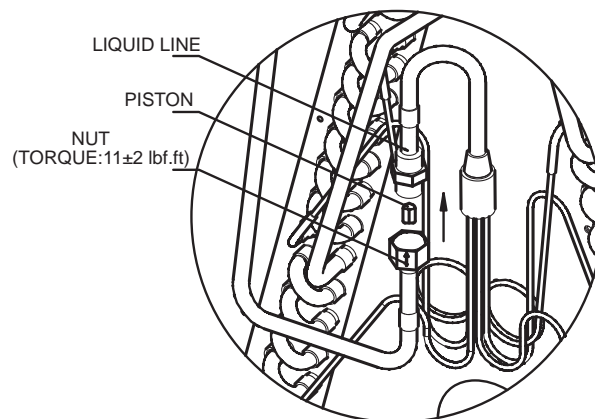

Fig.5 FLOWRATOR PISTON CHANGE
4.Remove and replace piston shown in Fig.5.